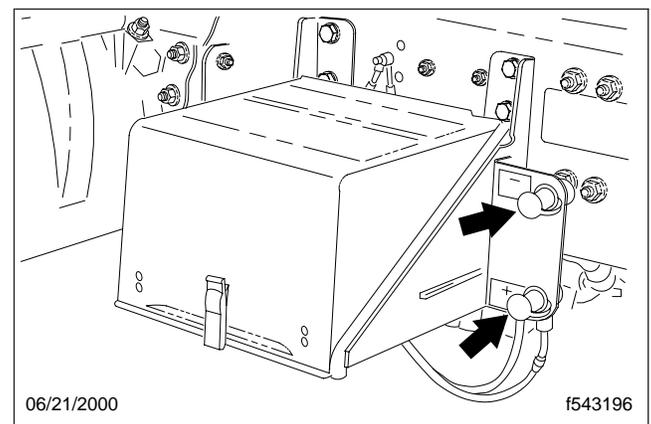

Fig. 2, Jump-Start Posts
3. For your third connection, attach one end of the other jumper cable to the negative terminal or negative jump-start post of the booster battery. For the fourth connection, attach the opposite end of that cable to a ground at least 12 inches (300 mm) from the battery of the vehicle being started. See **Fig. 2**. The vehicle frame is usually a good ground.